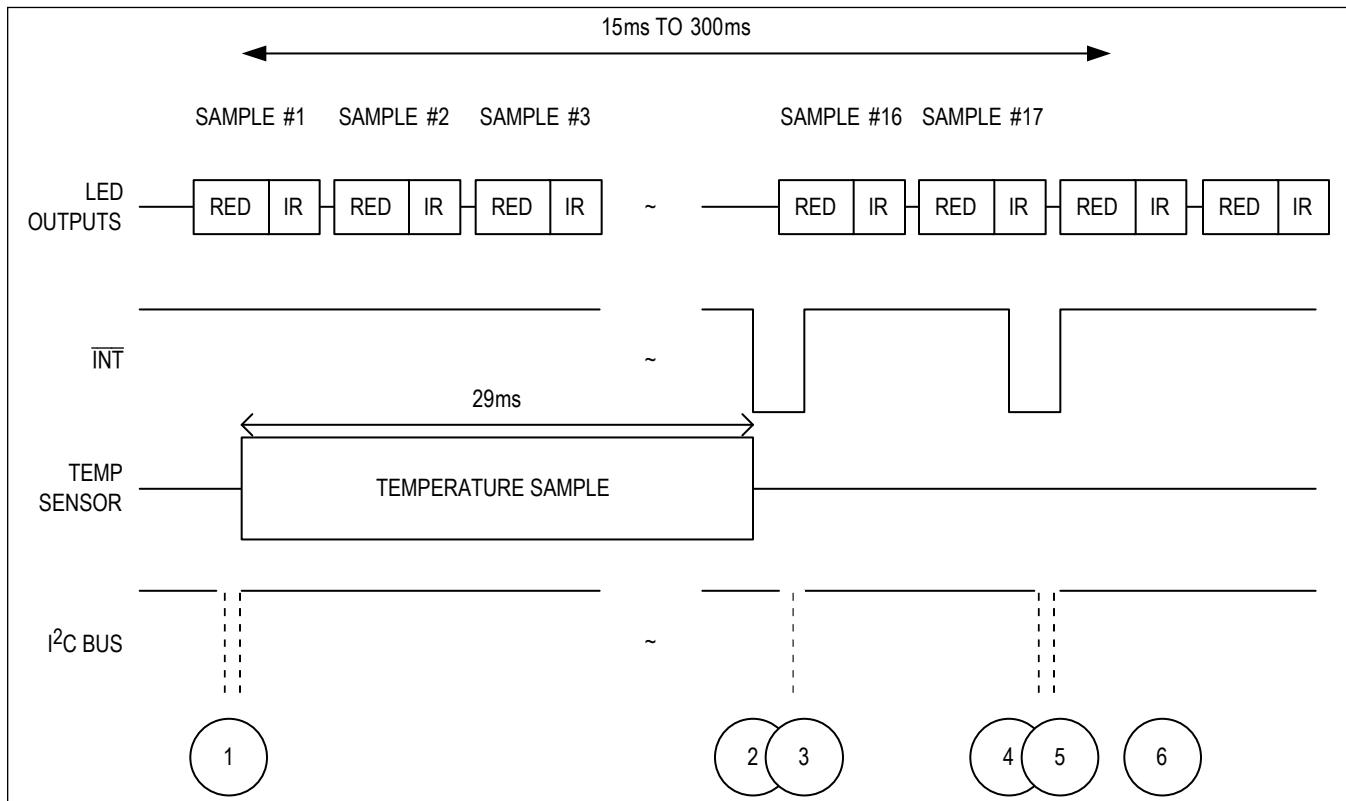

Figure 4. Timing for Data Acquisition and Communication When in SpO2 Mode
**Table 12. Events Sequence for Figure 4 in SpO2 Mode**